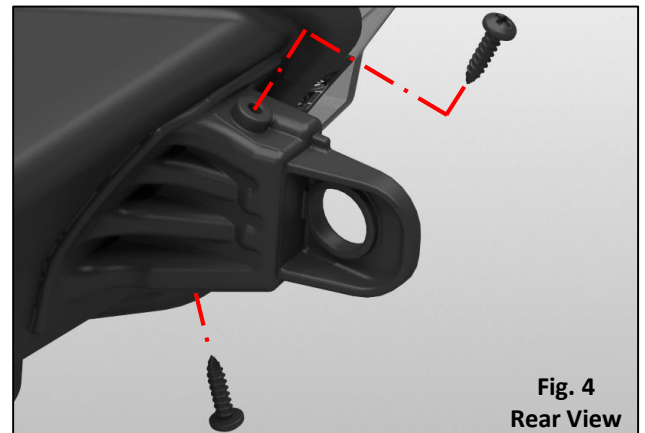

Fig. 4
**4. Install:** Install the prepared tab(s) ensuring a flush fit to the housing **Fig. 4**. Next, drive the 5/8" screws at the locations marked (A), while holding parts firmly together. **APPLY GLUE TO SCREW THREADS BEFORE DRIVING.** Do not overtighten screws. Allow the glue to cure for approximately 30 minutes before installing the repaired headlight on the vehicle.